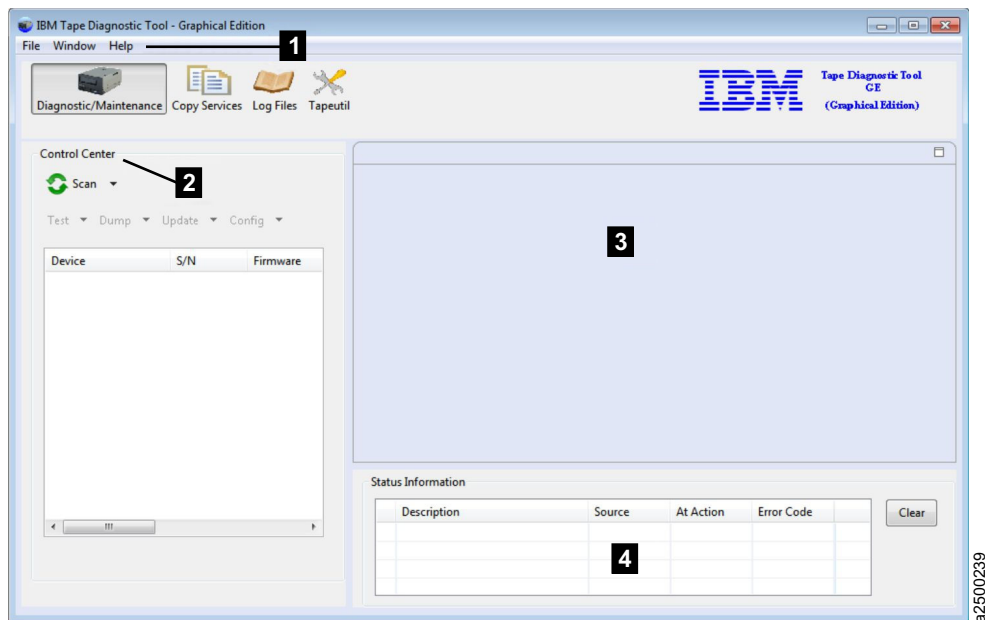

Figure 40. Graphical Edition interface
- Main menu (1 on Figure 40 on page 191)- in upper left (File, Window, Help) The following main program menu items are available:
- Control Center (2 on Figure 40 on page 191) - On left side (Device operations - Scan, Test, Dump, and Update)
- Test Lab (3 on Figure 40 on page 191) - Located from center to right side (Contains running and previously run tests)
- Status Information (4 on Figure 40 on page 191) - Located below the Test Lab (Contains summary results of tests)